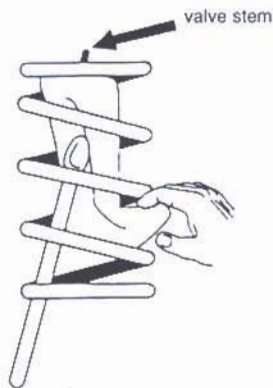

Figure 1
STEP 5 Insert flattened air cylinder into coil spring through lowest opening with valve stem at the top (Fig.1). Push the cylinder up within the coil by hand or with a blunt instrument such as a "spoon-type" tire iron.